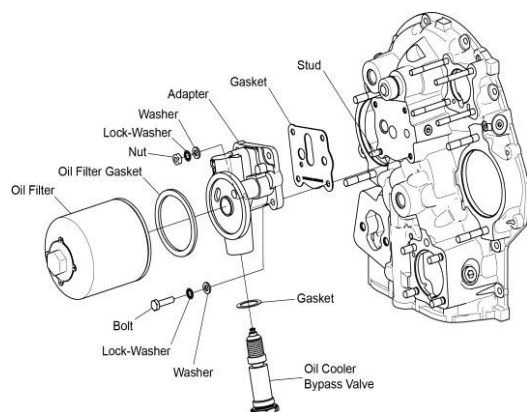
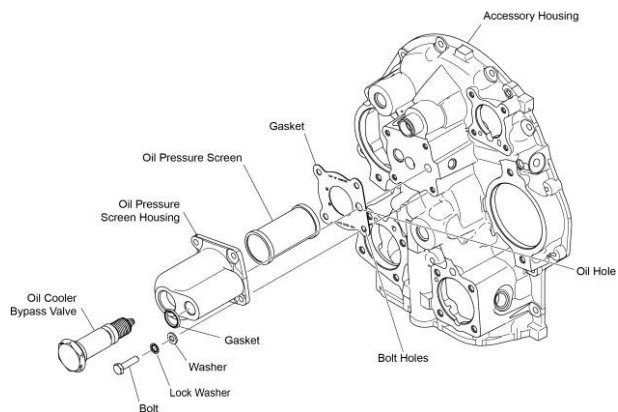
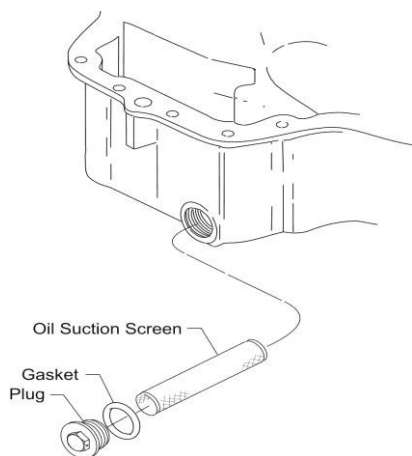

Figure 1
Figure 2
Figure 3
Engines can have either a full flow oil filter (Figure 1) or an oil pressure screen (Figure 2) to filter engine oil. An oil suction screen (Figures 3 and 4) also is installed in the oil sump to provide additional filtration of the engine oil.
NOTICE: Figures 1 to 4 are example configurations for illustrative purposes. The configuration on your engine could be different.
2. Remove the safety wire/cable from the oil filter (Figure 1). Discard the safety wire/cable.